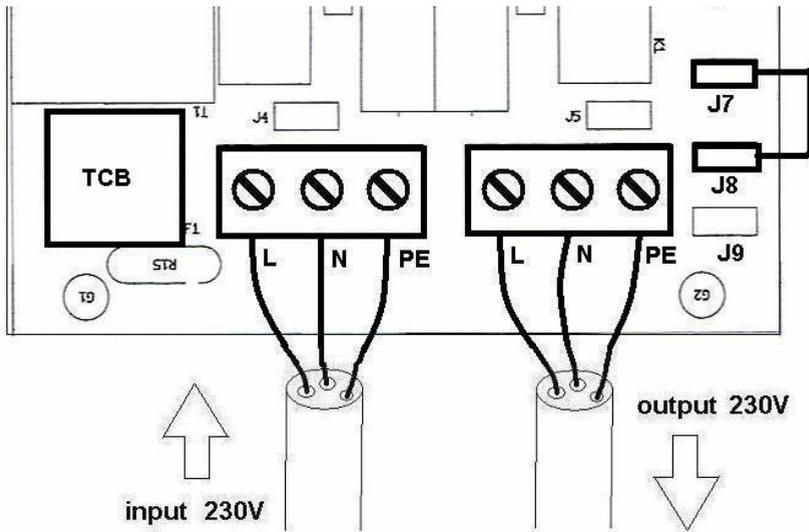

Figure 3: Output neutral grounding
2.3. Output neutral grounding (fig. 3)
A Residual Current Device (RCD) or Ground Fault Circuit Interrupter (GFCI) must be installed in the output cable of the isolation transformer. For this RCD to operate correctly, the output neutral must be connected to ground (= all the metal parts in the boat). This is achieved by placing a jumper on male push-on connectors J7, J8 (see fig. 3), and by grounding the enclosure of the isolation transformer.